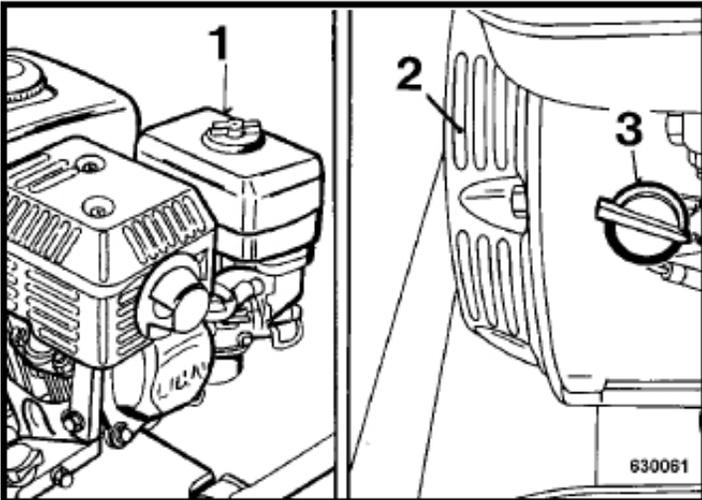

Fig. 25
- 1 Do not hold the water jet directly into the air filter/carburettor 1 (Fig. 25), the starter/air intake (2) and the oil warning light/start switch (3).